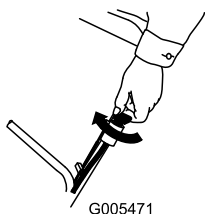
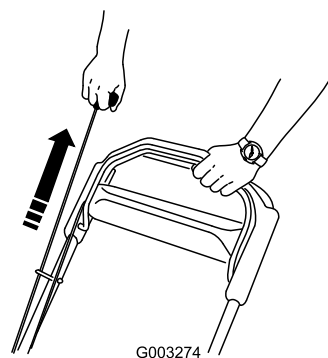

Figure 16
Figure 17
2. Turn the ignition key (electric-start models only) (Figure 16) or pull the recoil start handle (Figure 17).